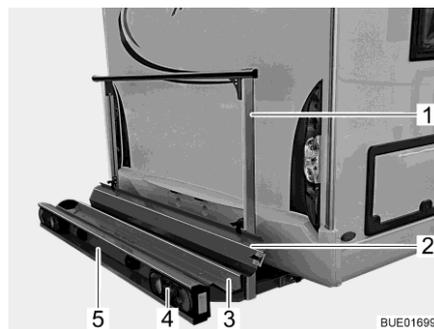
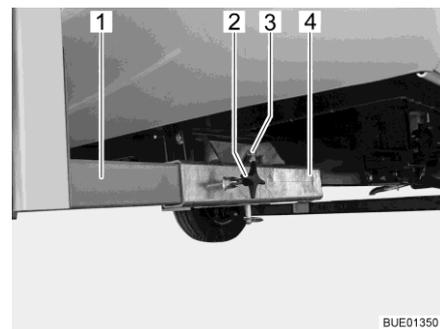

Fig. 4 Load rack
Fig. 5 Attachment to vehicle
The load rack (Fig. 4) permits transport of a motorcycle or a motor scooter weighing up to 130 kg.
- Rack trough (Fig. 4,3) and retaining clip (Fig. 4,1) with attachment to vehicle (Fig. 5)
- Rear lights (Fig. 4,4)
- Vehicle licence plate light (Fig. 4,5)
- Ramp (Fig. 4,2)
Attachment to vehicle The two side members (Fig. 5,1) of the load rack are fixed to the floor of the vehicle by means of tommy screws (Fig. 5,2) on the square drives (Fig. 5,4). The load rack is secured by a bolt (Fig. 5,3) with locking ring.